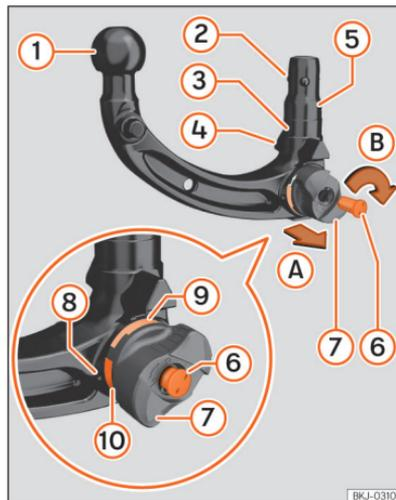

Fig. 153 Overview: removable tow hitch.
1. Before using the removable tow hitch, note the number engraved on the key >>> Fig. 153 6 in case it is necessary to make a duplicate.
4. Check that the housing, the thumbwheel >>> Fig. 153 8, the stem 5 and the locking balls 2 of the tow hitch are clean and in good condition. Clean them if necessary.
- The red mark >>> Fig. 153 ⑩ on the thumbwheel points towards the green mark ⑨ on the tow hitch.
- The thumbwheel ⑧ is clearly separated from the tow hitch by at least 4 mm [0.2 in].
- All locking balls ② can be fully engaged on the stem ⑤.
- The key ⑥ is inside the lock, the arrow on the key is pointing towards the *lock open* symbol on the thumbwheel ⑧ and the key cannot be removed.
1. Open the lock cover >>> Fig. 153 ⑦ and insert the key into the lock.
2. Turn the key ⑥ counterclockwise until the arrow on the key points towards the *lock open* symbol on the thumbwheel ⑧.
3. Hold the tow hitch with one hand. With the other, pull out the thumbwheel ⑧ in direction A.
4. Turn the extracted thumbwheel ⑧ in direction B as far as the stop.
Once the tow hitch has been pre-tensioned, do not touch the thumbwheel again >>> Fig. 153 ⑧. When the tow hitch is locked, the thumbwheel rotates to its original position and can cause injury >>> Δ.
- The green mark on the thumbwheel ⑨ faces upwards.
- The hitch is locked with the key ⑥ and the key can be removed.
- There is no longer any gap between the thumbwheel ⑧ and the hitch.
3. Turn the key ⑥ clockwise to lock the hitch.
4. Close the lock cover ⑦.
- The green mark on the thumbwheel >>> Fig. 153 ⑨ faces upwards.
- The thumbwheel ⑧ is right next to the hitch and can be locked.
- The hitch is locked and the key ⑥ removed.
- It is no longer possible to pull the thumbwheel ⑧ sideways.
- Do not use the tow hitch if the diameter of the spherical head >>> Fig. 153 ① is less than 49 mm [1.9 in] any any point.